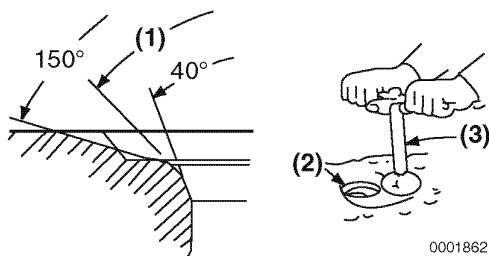

Figure 8-8
Light cutting can be performed by the use of a hand-operated cutter (**Figure 8-8, (3)**).
The valve seat (**Figure 8-8, (2)**) diameter can be adjusted by top-grinding with a 150° stone to make the seat diameter smaller, and bottom-grinding using a 40° stone to make the seat diameter larger. Once the seat location has been corrected, grind and lap the seat angle (**Figure 8-8, (1)**) to specification. See *Cylinder Head* on page 8-4 for specifications.